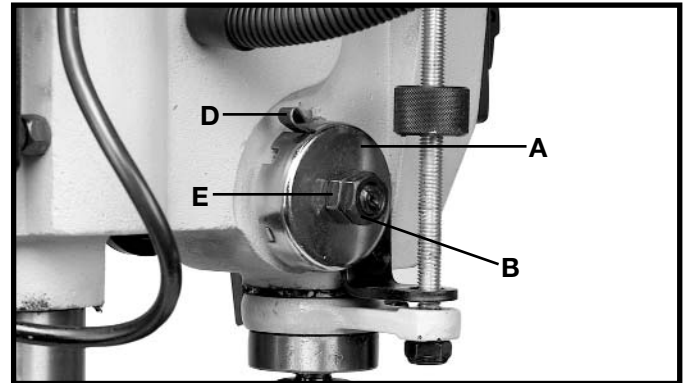

Fig. 27
1. Loosen nuts (B) and (E) Fig. 27. Make sure spring housing (A) stays engaged with head casting.
2. While **FIRMLY HOLDING** spring housing (A) Fig. 27 pull out housing and rotate it until boss (D) is engaged with the next notch on the housing. Turn the housing counterclockwise to increase or clockwise to decrease spring tension. Turn nut (E) until it contacts spring housing (A), then back nut (E) out a 1/4 turn from spring housing (A). Tighten nut (B) against nut (E), to hold the housing in place. **IMPORTANT: Inside nut (E) should not contact spring housing (A) when tightened.**